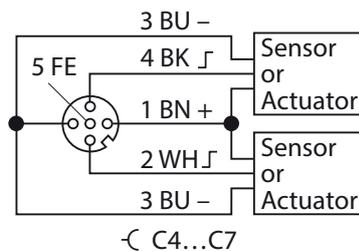

Fig. 15: DXP channels
- Connect digital sensors and actuators to the device according to **Fig. 15: DXP channels**.